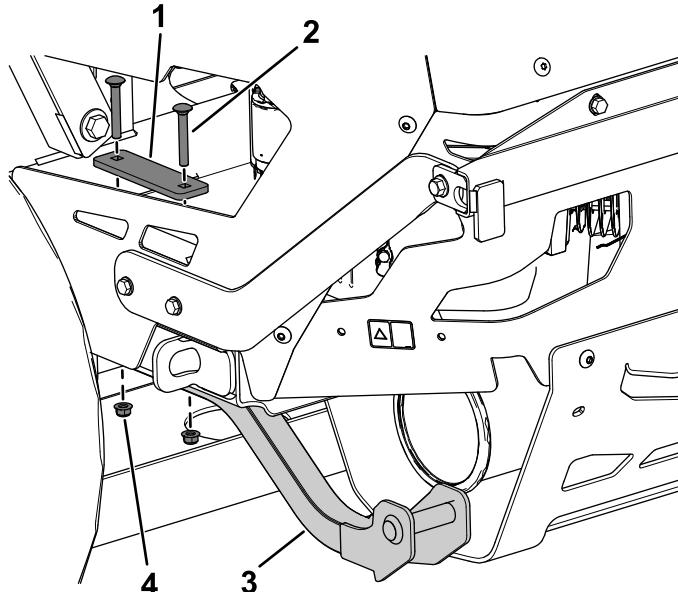

Figure 14
4. Loosely secure the lower support to the engine plate using 2 carriage bolts (5/16 x 2-1/4 inches), 1 backer plate, and 2 flange nuts (5/16 inch) as shown in Figure 14.